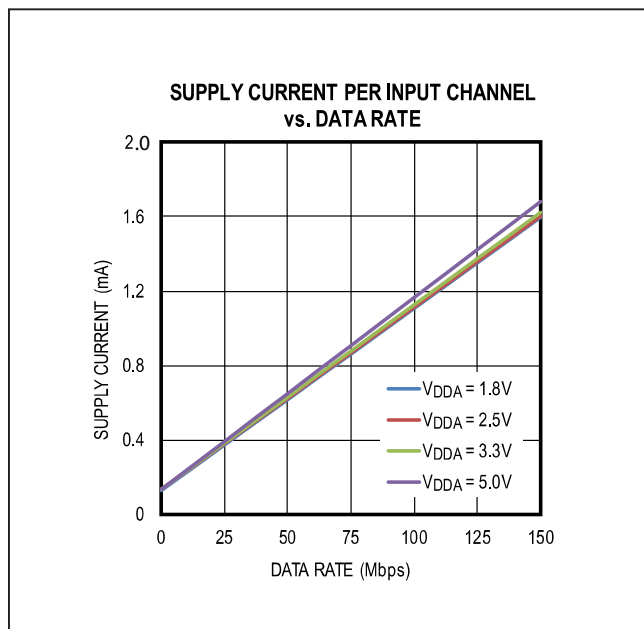
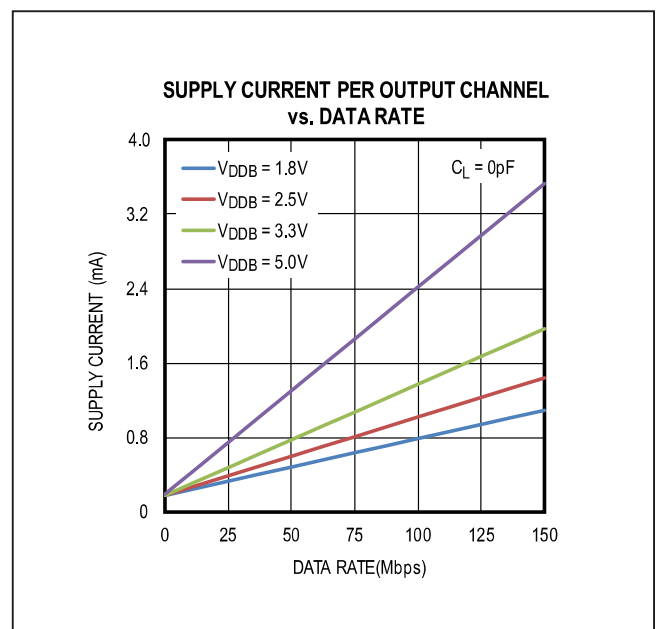

Figure 6. Supply Current Per Input Channel (Estimated)
Figure 7. Supply Current Per Output Channel (Estimated)
The required current for a given supply (V_{DDA} or V_{DDB}) can be estimated by summing the current required for each channel. The supply current for a channel depends on whether the channel is an input or an output, the channel’s data rate, and the capacitive or resistive load if it is an output. The typical current for an input or output at any data rate can be estimated from the graphs in Figure 6 and Figure 7. Please note the data in Figure 6 and Figure 7 are extrapolated from the supply current measurements in a typical operating condition.
The total current for a single channel is the sum of the “no load” current (shown in Figure 6 and Figure 7) which is a function of Voltage and Data Rate, and the “load current,” which depends on the type of load. Current into a capacitive load is a function of the load capacitance, the switching frequency, and the supply voltage.
- Channel 1 is an input channel operating at 2.5V and 20Mbps, consuming 0.33mA, estimated from Figure 6.
- Channel 2 and 3 are input channels operating at 2.5V with DC signal, consuming 0.13mA, estimated from Figure 6.
- Channel 4 is an output channel operating at 2.5V and 100Mbps, consuming 1.02mA, estimated from Figure 7.
- Channel 1 is an output channel operating at 3.3V and 20Mbps, consuming 0.42mA, estimated from Figure 7.
- Channel 2 and 3 are output channels operating at 3.3V with DC signal, consuming 0.18mA, estimated from Figure 7.
- Channel 4 is an input channel operating at 3.3V and 100Mbps, consuming 1.13mA, estimated from Figure 6.